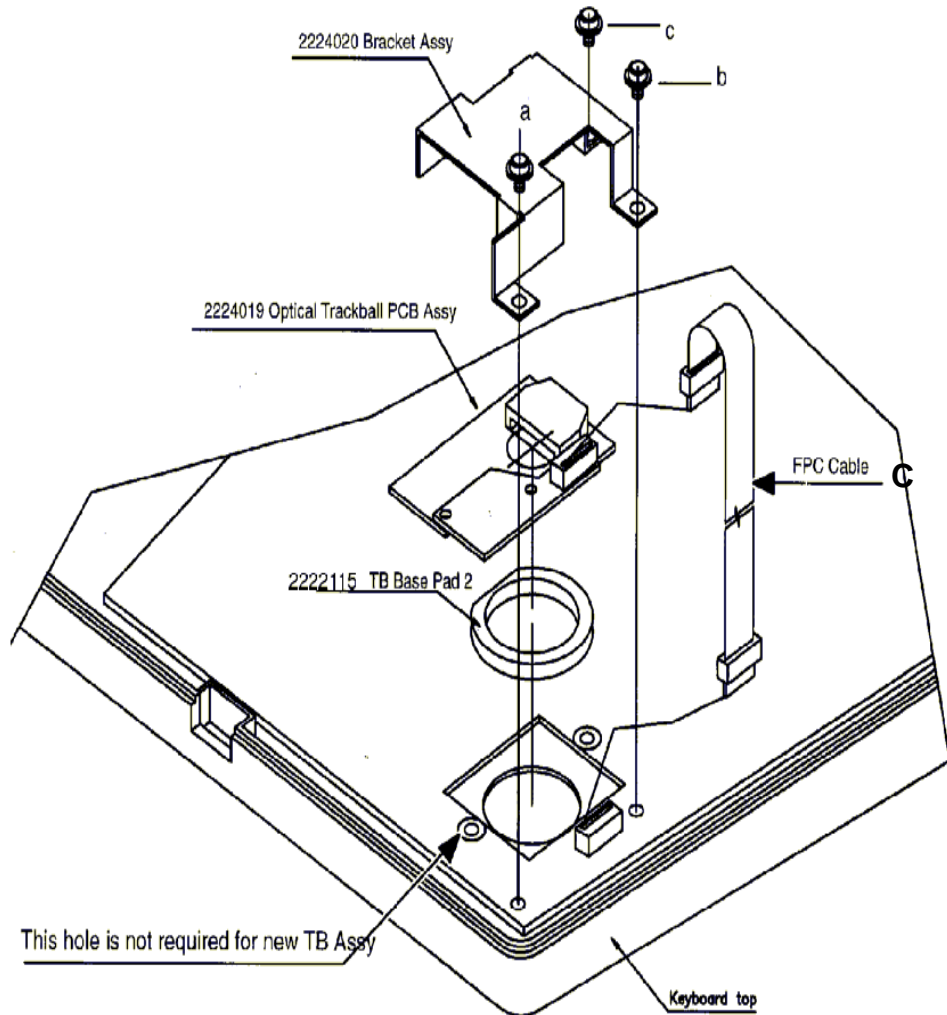

Figure 8-5 Optical Trackball Assembly for LOGIQ™ 100 PRO
Assemble TB Base Pad 2 2222115. Refer Figure 8-5
- 9.) Assemble Optical Trackball PCB Assembly 2224019 refer Figure 8-5
- 11.) Assemble Trackball bracket assembly 2224020 refer Figure 8-5
- 13.) Fix the FPC cable 2139504 (C) as shown in Figure 8-5